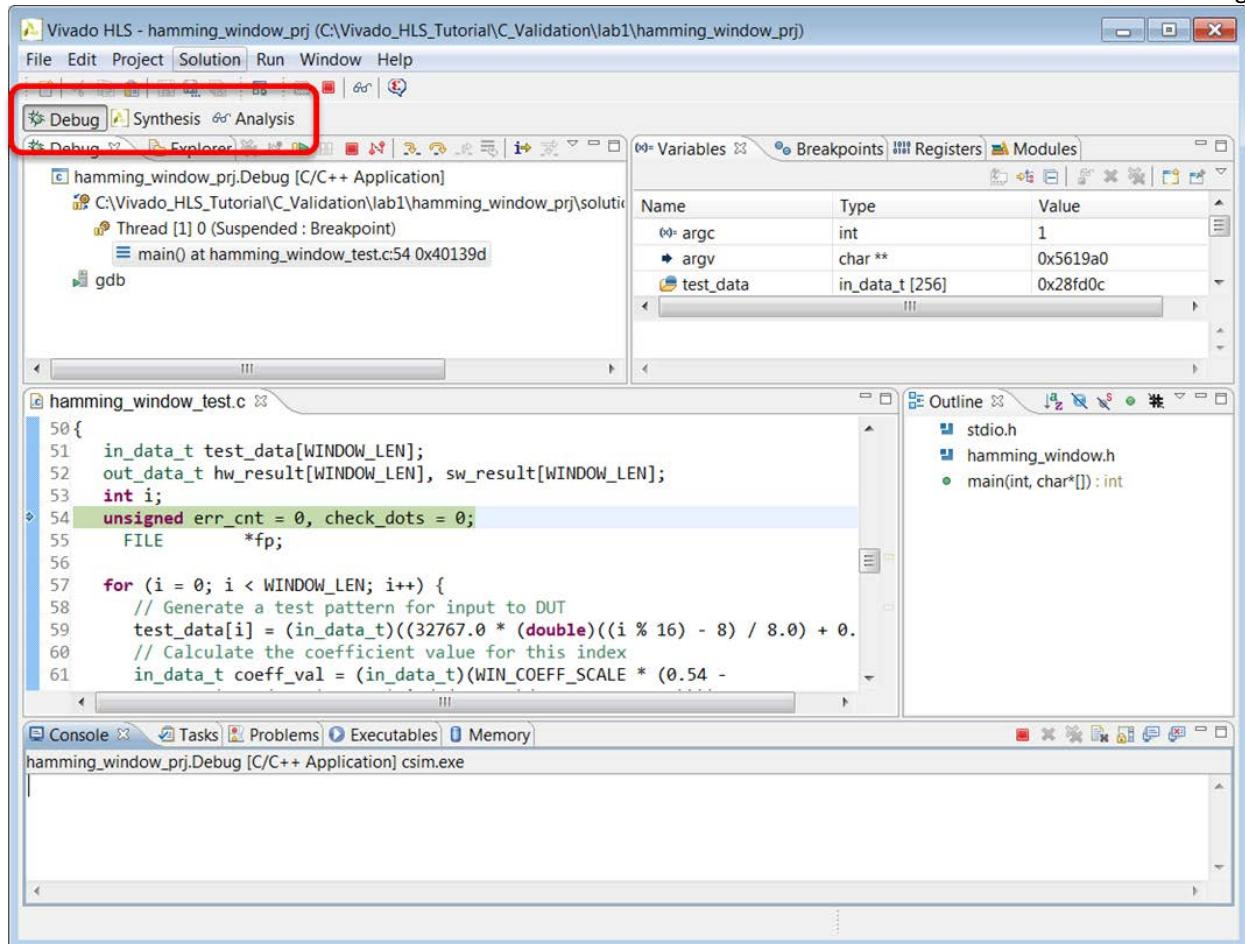

Figure 40 The HLS Debug Perspective
The Debug option compiles the C code and then opens the Debug environment as shown in Figure 40. Some things worth noting before proceeding:
- Highlighted at the top-left in Figure 40 the perspective has changed from Synthesis to Debug. The perspective buttons can be used to return to the synthesis environment at any time.